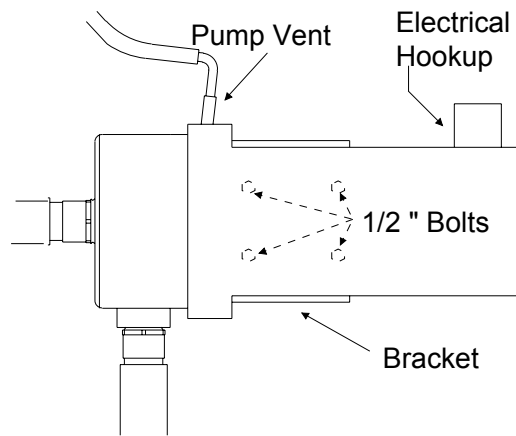

Figure 9. Pump and Motor Assembly
3. Open electrical hookup box at pump motor (see Figure 9).